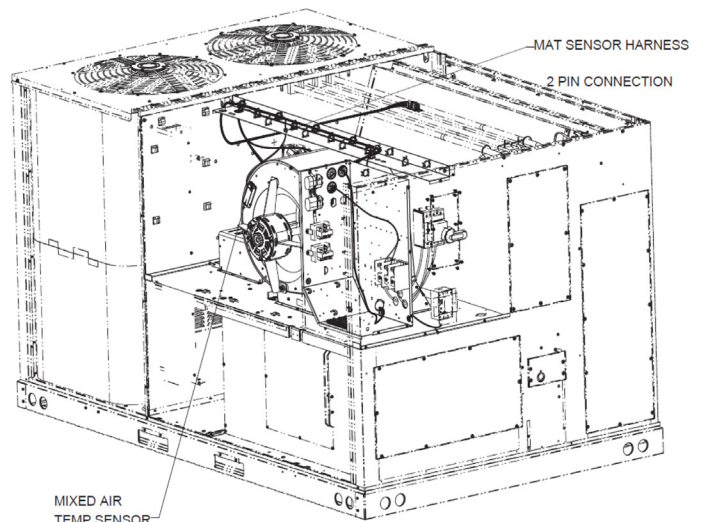

FIGURE 17 - INDOOR FAN SECTION/MIXED AIR SENSOR 7.5-12.5 TON
4. Remove the indoor fan compartment cover and locate the factory installed mixed air temperature harness. This harness consists of two black wires and a two pin connector. Once the harness is located, install the mixed air temperature sensor provided with the kit on the side of the blower housing. Connect the mixed air temperature sensor to the harness using the adapter harness provided with the economizer kit (see Figure 17). Reinstall the indoor fan compartment cover.